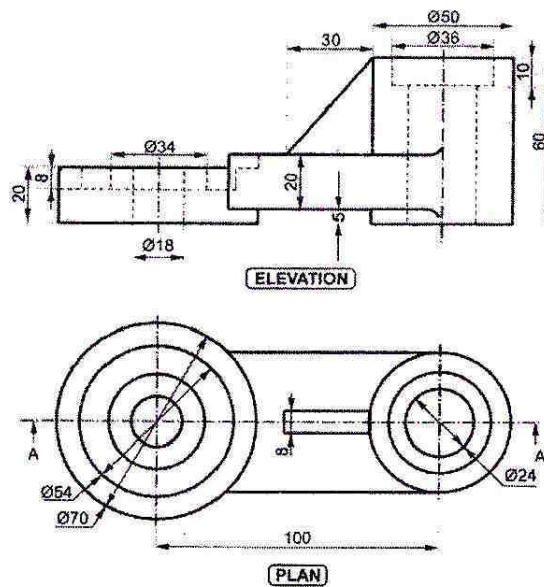

Fig. No. 8
10. The following Fig. No. 8 shows Elevation and Plan of an object. Using same method of projection, draw the following views :